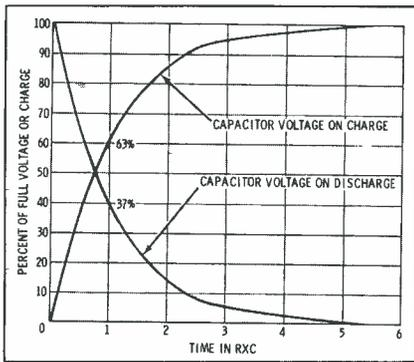

Fig. 2. Graph shows charge and discharge percentage vs time constant.
across R. S is then switched to contact 2; as the graph shows, current instantly increases to maximum value and is limited only by resistance R. As Fig. 2 shows, in one time constant (TC)—which is equal to resistance, in ohms, multiplied by capacitance, in farads—C will charge to 63.2% of voltage  $E_b$ . Consequently the voltage across R will decrease from  $E_b$  (at  $1TC$ ) to 36.8% of  $E_b$ .  $E_c$  will increase and  $E_r$  will decrease until, at 5 TC,  $E_c$  will for all practical purposes equal  $E_b$ .